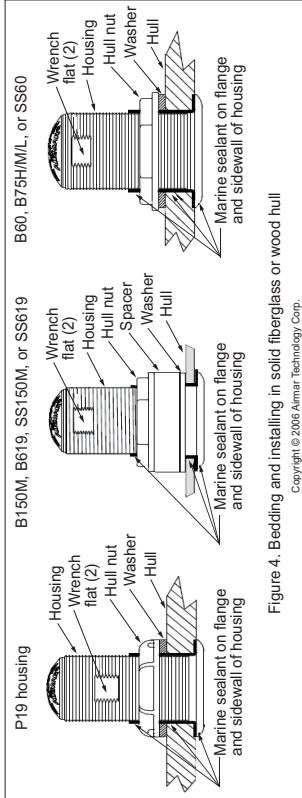

Figure 4. Bedding and installing in solid fiberglass or wood hull
- Apply a 2 mm (1/16") thick layer of marine sealant around the flange of the housing that contacts the hull and up the sidewall of the housing (see Figure 4 or 5). The sealant must extend 6 mm (1/4") higher than the combined thickness of the hull, washer(s), hull nut, and any spacer. This will ensure there is marine sealant in the threads to seal the hull and to hold the hull nut securely in place.
2. Slide the washer onto the housing (see Figure 4 or 5). **B150M, B619, SS150M, SS619** - Also slide the spacer onto the housing and rest it against the washer. Do not use the spacer if there is insufficient space to tighten the nut or it is within 11 mm (1/2") of the top of the housing.